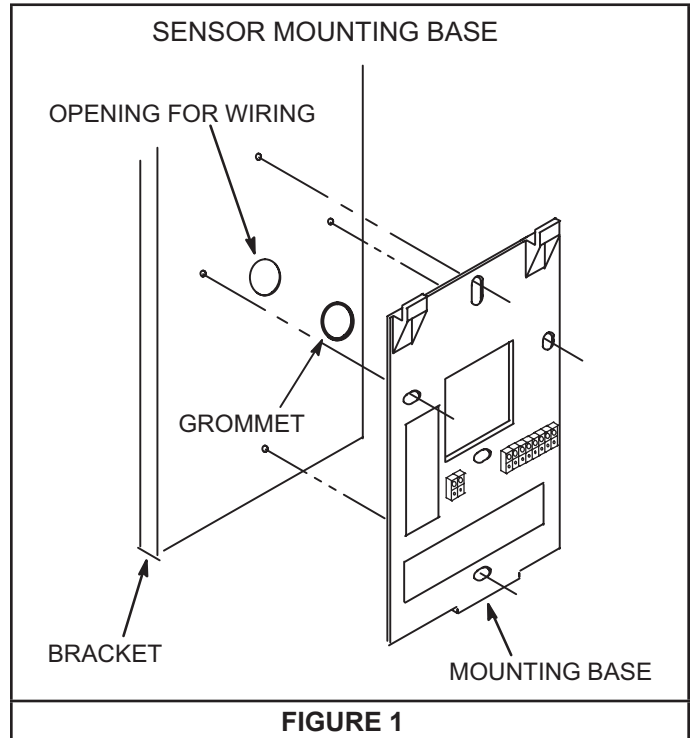

FIGURE 1
- 3 - Align baseplate on bracket as shown in FIGURE 1 and secure with 4 thread forming screws.